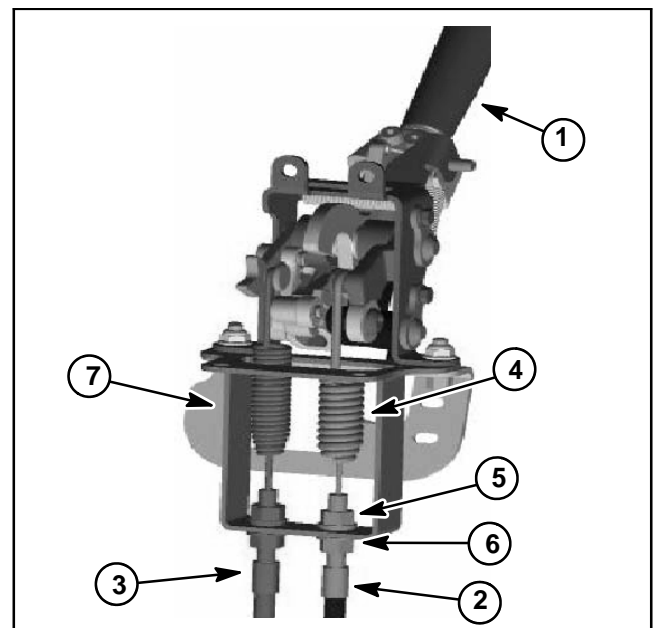

Figure 13
4. Remove reel clutch cable from traction lever assembly (Fig. 13):
1. Secure reel clutch cable to traction lever assembly (Fig. 13):
3. Make final reel clutch cable adjustment at traction lever assembly (Fig. 13):